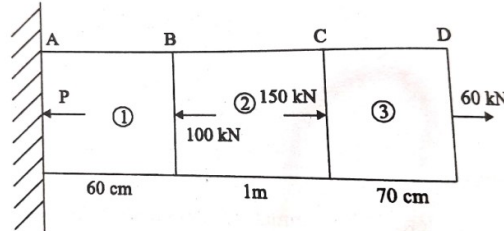

Figure: 1
31. a) Determine the total change in length of a uniform cross section bar subjected to axial forces as shown in Figure:1. The cross section of bar is  $600\text{mm}^2$ . Also determine the stresses developed in each portion. Take  $E = 2.1 \times 10^{11}\text{N/m}^2$ . 10 K3 CO1